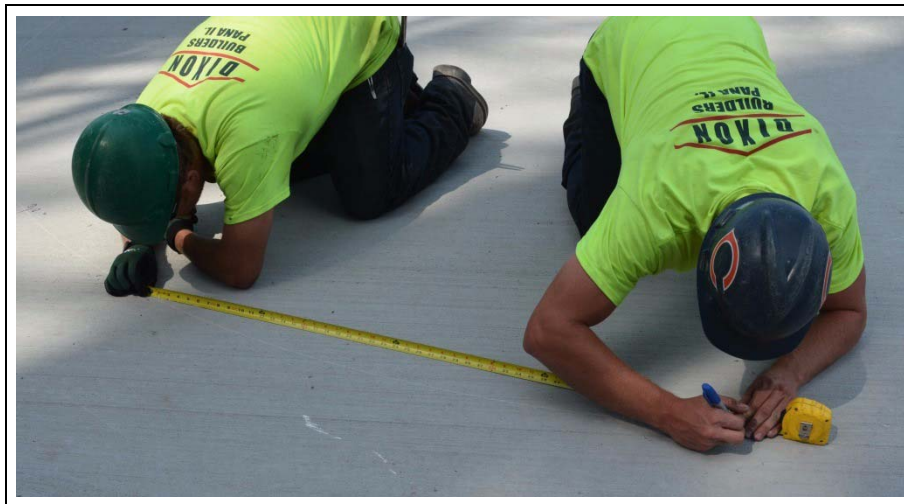

Figure 7H
10. Measure the inside chord distance along the scribed diameter and mark the locations, making sure that they are positioned so as not to interfere with the equipment that will be installed later. (See Figure 7H.)